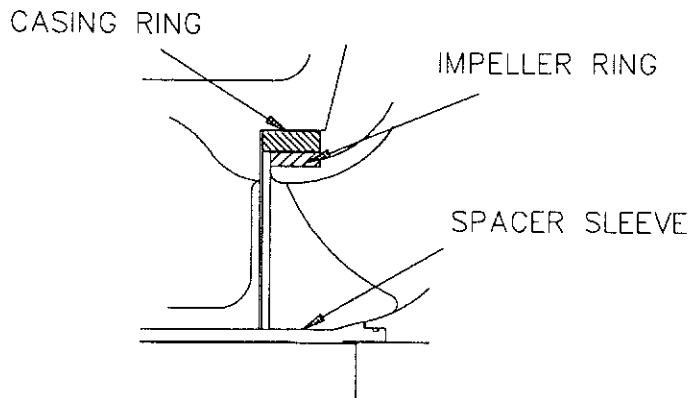

Fig.2
- d) Install casing rings (See Fig.2).
- e) Install deflectors (17C & 17T) and bearing endplates (19) onto shaft.